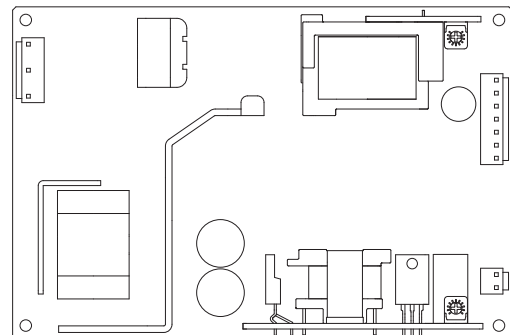
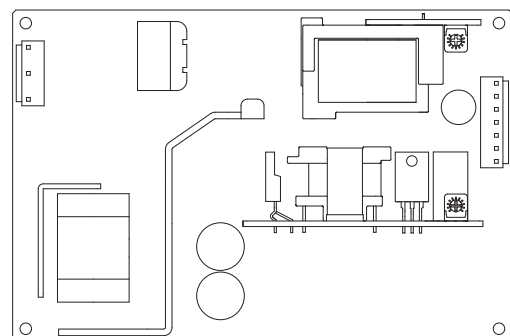

Fig.1.1 Schematic, if you configure Slot 2 as "O"
Fig.1.2 Schematic, if you configure Slot 3 as "O"
- (1) The code of the module installed in Slot 1 is selected from Slot 1 output module specifications.
- (2) Slot 1 has to have a module selected.
- (3) The code of the module installed in Slot 2 is selected from Slot 2, Slot 3 output module specifications and Slot 2 dedicated output module.
- (4) The code of the module installed in Slot 3 is selected from Slot 2, Slot 3 output module specifications.
- (5) It is possible to configure Slot 2, Slot 3 as an empty slot. (Refer to Fig.1.1, Fig1.2)